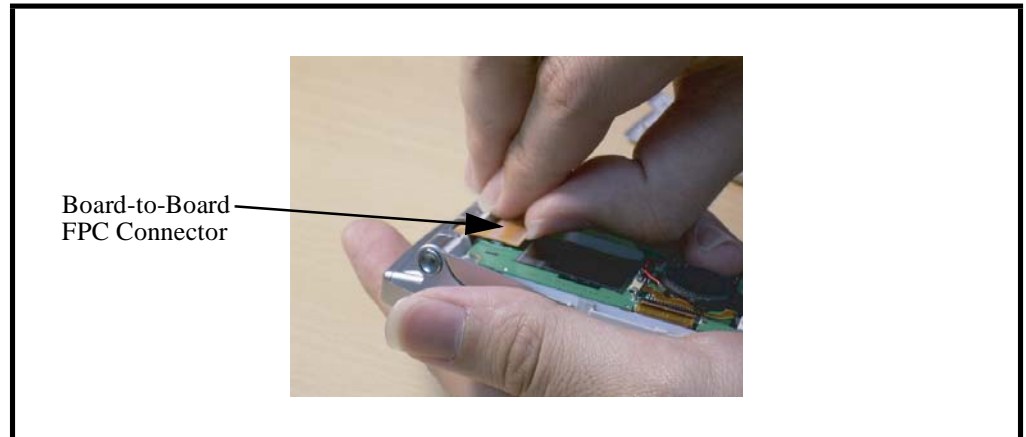

Figure 12. Disconnect the Board-to-Board FPC Connector
2. Disconnect the board-to-board FPC connector from the upper PCB as shown in Figure 12.